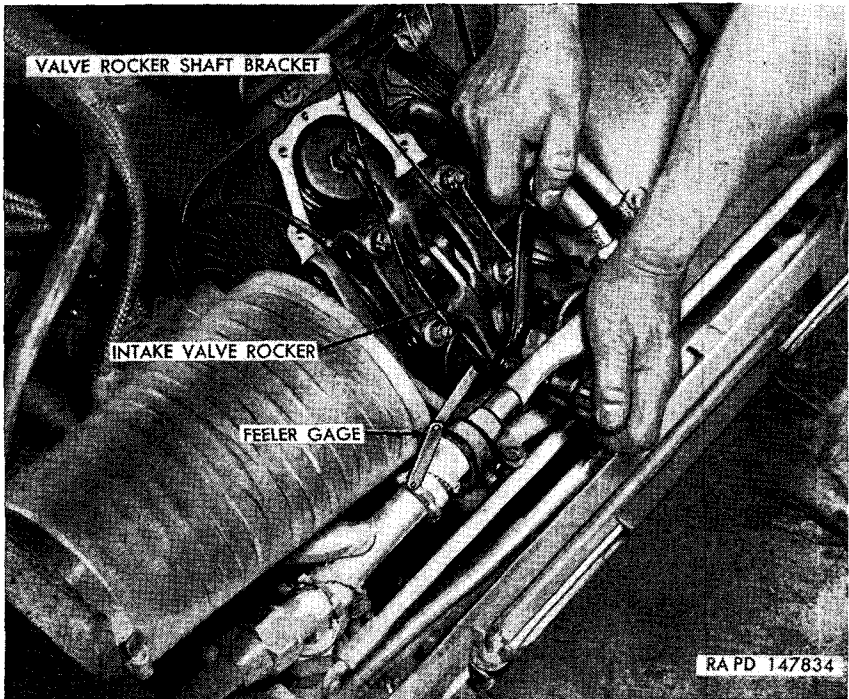

Figure 119. Adjusting intake valve with feeler gage 7083769.
ers. Adjustments of all valves will be made with the rocker rollers (cam followers) on the base circles of the cams, opposite the cam lobes (high points of cams). Insert the feeler gage 7083769 between the tip of the valve stem and the adjusting screw pad ends (figs. 119 and 120). If adjustment is required, loosen the adjusting screw lock nut and turn the adjusting screw until the proper clearance is obtained. When adjusted, hold the adjusting screw in position and tighten the lock nut.
- (1) Remove front and intermediate sections of top deck. Refer to paragraph 158c(1). Remove air-cleaner-to-carburetor pipes (par. 159d(13)), exhaust pipes (par. 182), and valve rocker covers (par. 155b(2)).
- (2) Remove valve rockers. Remove the locking wire, nuts, and washers which secure the valve rocker shaft bracket (fig. 119).
- (1) *Install valve rockers.* Assemble the rocker assemblies to the rocker shaft brackets and position over studs.
Note. Make certain brackets are installed as marked (a(2) above). Secure the brackets with the four washers and nuts turning each nut, in rotation, a turn at a time. When the nuts are seated tighten to 175 to 200 lb-in torque, and lock wire each traverse set of nuts (fig. 119). Repeat procedure for each cylinder.
- (2) *Adjust valves.* Refer to paragraph 155b(4).
- (3) *Install valve rocker covers, exhaust pipes, and air-cleaner-to-carburetor pipes.* Refer to paragraph 155b(6).
- (4) *Install front and intermediate sections of top deck.* Refer to paragraph 161b(2).